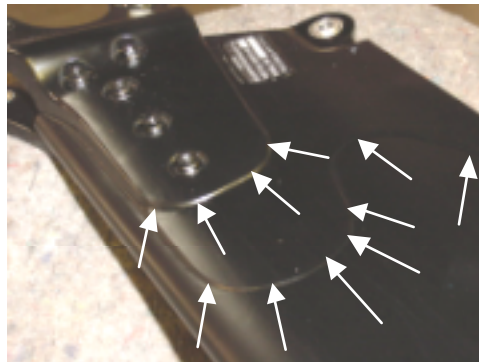

Figure 1 - Inboard Area of Main Rotor Blade - Bottom Side
6. In addition, inspect the **Outboard Periphery of the Bottom Doubler and Bottom Root Fitting** for cracks (Figure 1). **Lift outboard end of the blade off the droop stop** by the blade outboard end. Use a **10x Magnifying Glass**. Any evidence of cracking scraps the blade.